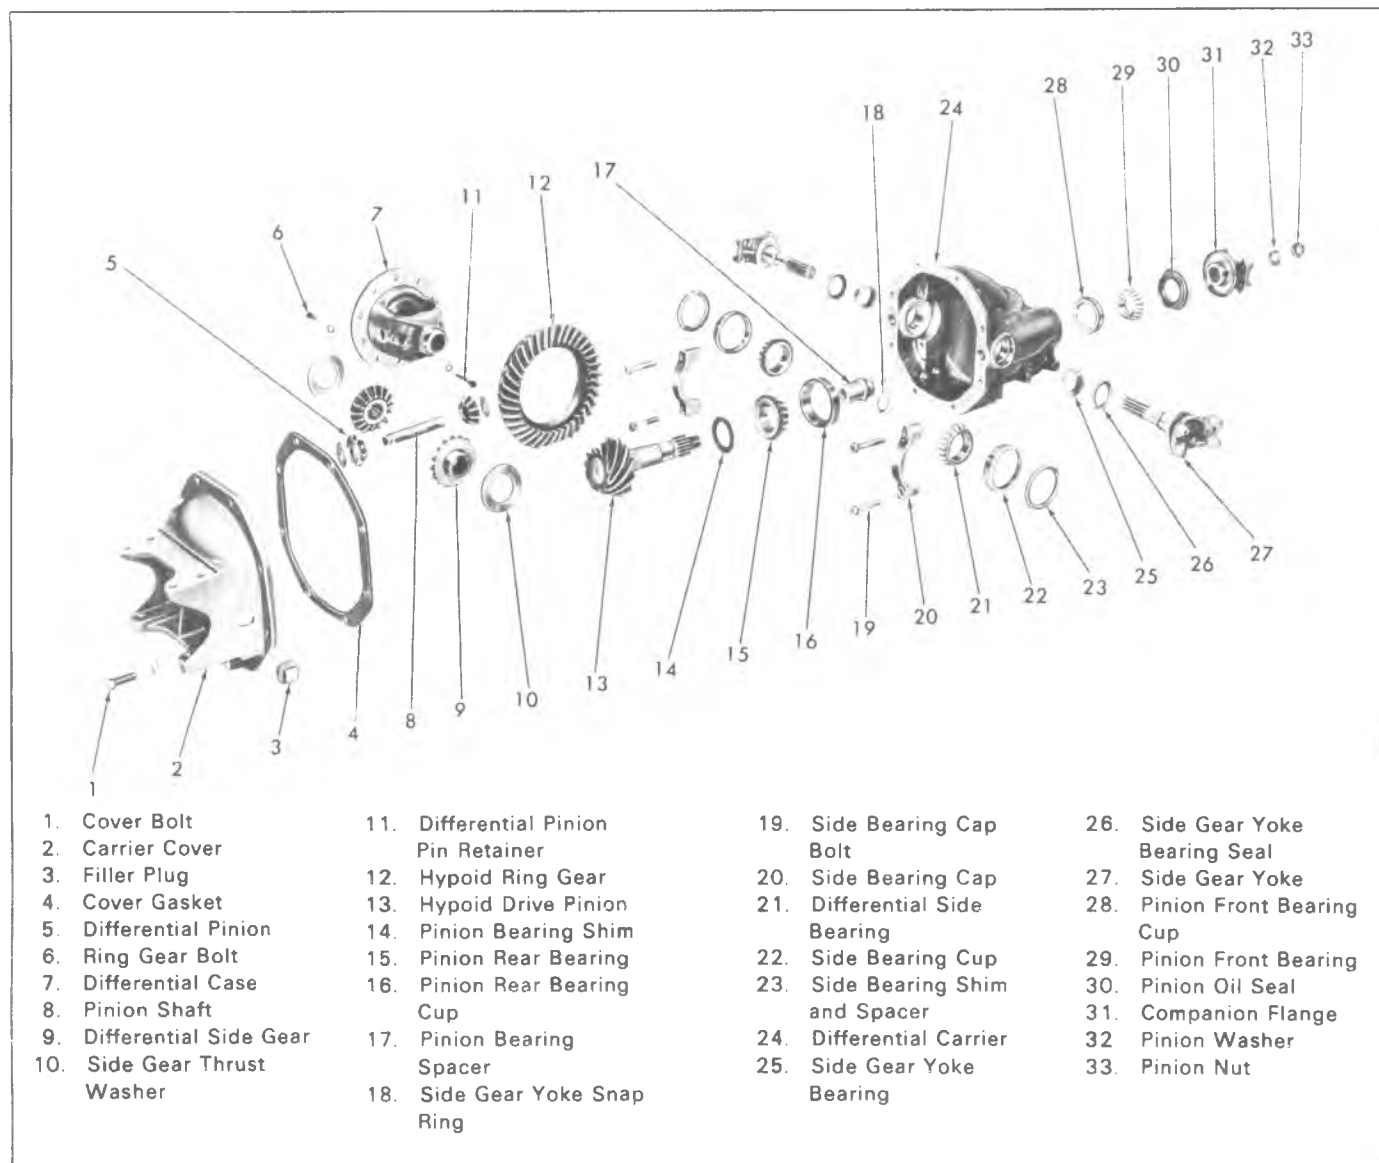

Fig. 1C--Carrier Assembly - Exploded View
2. Remove snap rings securing side gear yokes and pull yokes out of carrier. See figure 1C.